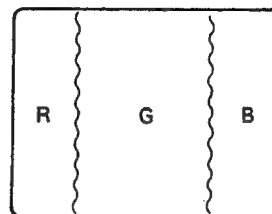

Fig. 1-3.
8. Turn purity knob as shown in Fig. 1-3 to bring the green on the center of the screen.